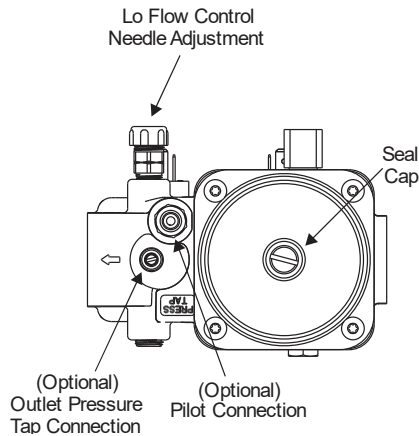

Figure 4: Underside of Valve with Bottom Adjust Regulator
- Connect the pilot tubing (when necessary) to the threaded pilot connection on the underside of the valve body (Figure 4) and run the tube to the pilot burner within the appliance. Connect the pilot tube to the valve with an optional compression fitting.
- Optional Lo flow adjusting screw in the end of the solenoid (see Figure 4). Adjust clockwise to restrict the flow and counter clockwise to open the flow. To prevent damage to the seal, do not over tighten when turning clockwise.
- If you desire to measure the outlet pressure, use the bottom cast pressure test fitting (see Figure 4) or use the Y99AX pressure test fitting (see Figure 3) and an approved pipe joint compound on the male threads and replace the marked pressure tap plug, which is optional on the inlet or outlet of the valve body. Screw the fitting into threaded port of the valve, which replaces the pressure tap plug.
15. If installing a valve with a pressure regulator, set the valve to the desired outlet pressure. See the *Regulator Adjustment* section for specific adjustment procedures. After setting the valve outlet pressure, ensure that the leak-limiting seal cap is replaced (Figure 4).
To adjust the outlet pressure, remove the leak-limiting seal cap to expose the adjusting screw (see Figure 4). Turn the screw (using a suitable screwdriver) in a clockwise direction to increase or in a counterclockwise direction to decrease the outlet pressure of the valve.